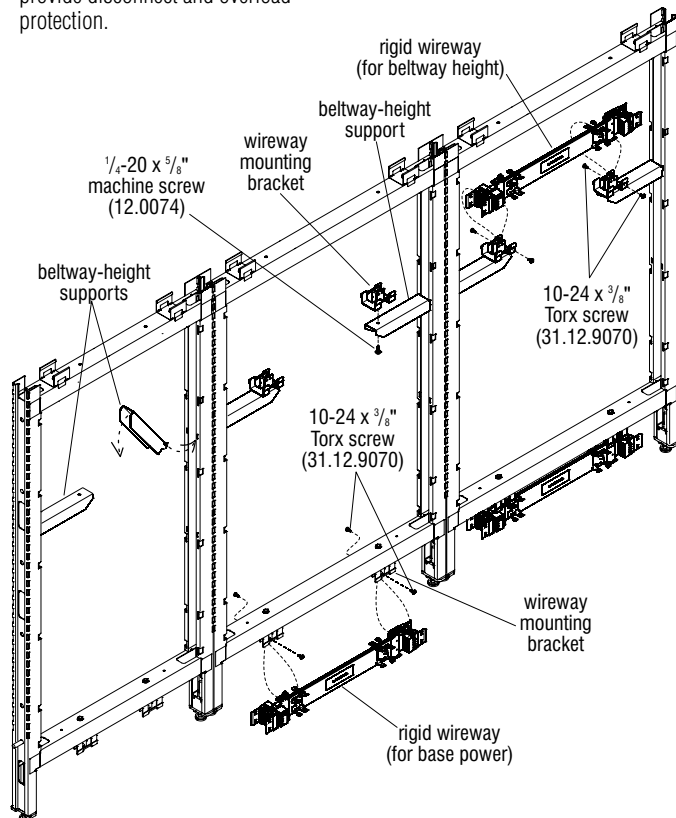
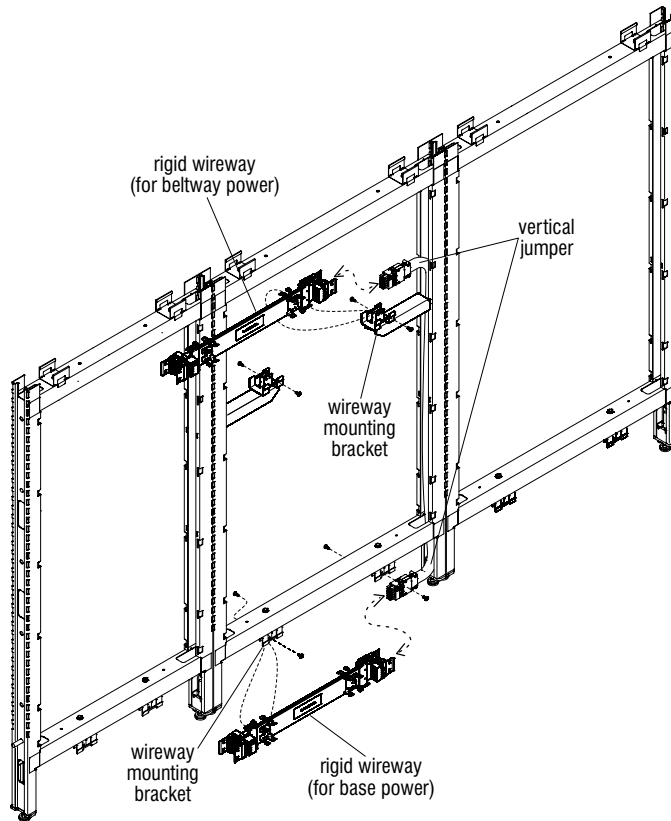

Figure 1 - Base & Beltway Rigid Wireways
Figure 2 - Base to Beltway Vertical Jumper
1. Position the rigid wireway under the lower horizontal frame member (N symbol oriented up) such that mounting tabs on the wireway fit up between the two tangs of the wireway mounting bracket. Align all four mounting holes of the wireway with the four holes of the wireway mounting brackets, and secure using two #10-24 x  $\frac{3}{8}$ " Torx screw (31.12.9070) per bracket, one from each side of the rigid wireway. Use the left mounting holes on one side of the bracket, and the right mounting holes on the other side of the bracket so that mounting screws do not interfere with each other (Figure 1).
2. Repeat the above base power rigid wireway installation for all panels that are powered, or will have power passing through them, per your space-planning layout (Figure 1).
**Note:** If vertical power jumpers are to be used between base power and beltway rigid wireways in any panel frame, refer to page 24, Figure 2 as vertical power jumpers should be installed before rigid wireways.
1. At 30" beltway height, install beltway-height supports into the vertical frame member by tipping the inside of each support up, inserting the hook-tabs into the vertical slots, and rotating the support down into horizontal position as illustrated. Repeat for second required beltway-height support across from the first (Figure 1).
2. Install a wireway mounting bracket to the mounting hole of each beltway-height support using  $\frac{1}{4}$ -20 x  $\frac{5}{8}$ " machine screw (12.0074), as illustrated from underneath each support. Make sure bracket is aligned straight onto support before tightening (Figure 1).
3. Position a rigid wireway above the pair of beltway-height wireway mounting brackets (N symbol oriented up) such that mounting tabs on the wireway fit in between the two tangs of the wireway mounting bracket. Align all four mounting holes of the wireway with the four holes of the wireway mounting brackets, and secure using #10-24 x  $\frac{3}{8}$ " Torx screw (31.12.9070) screws per bracket, one from each side of the rigid wireway. Use the left mounting holes on one side of the bracket, and the right mounting holes on the other side of the bracket so that mounting screws do not interfere with each other (Figure 1).
4. Repeat the above beltway-height power rigid wireway installation for all panels that are powered, or will have power passing through them at beltway height, per your space planning layout (Figure 1).
1. At the location specified for a vertical jumper, route the jumper into the vertical post cavity of the panel frame, and route the ends out just above and below the wireway mounting brackets as illustrated (Figure 2).
2. Snap the lower vertical wireway end into the base-power rigid wireway, and attach wireway to the wireway mounting brackets as described on page 23, Figure 1. Next, snap the upper vertical wireway end into the beltway-power rigid wireway and secure wireway to wireway mounting brackets on beltway-height support (Figure 2).